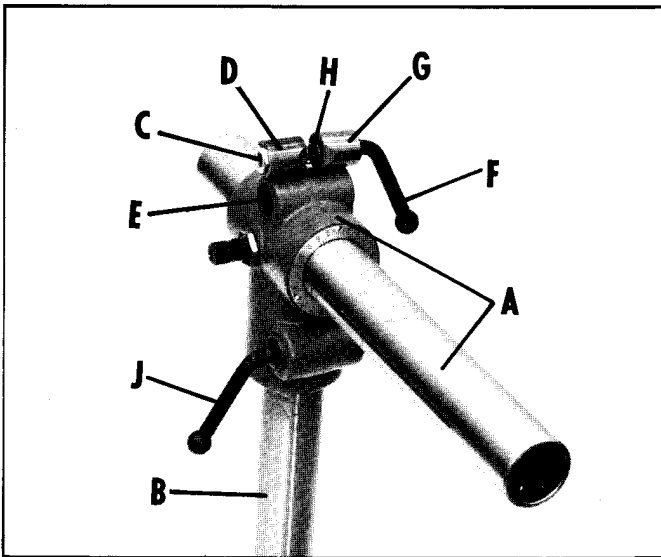

Fig. 3
3. Place "T" bracket and horizontal column (A) Fig. 3, on vertical column (B) as shown.
4. Remove nut (C) and clamp shoe (D) Fig. 3, from one column clamp. Place some grease in "T" bracket clamp bore (E) Fig. 3. Place the clamp handle (F), clamp shoe (G), and spring (H) through the "T" bracket clamp bore. Assemble the other clamp shoe (D) and nut to the clamp handle (F) on the other end of the bore. **IMPORTANT: MAKE SURE THE BEVEL END OF BOTH CLAMP SHOES (D) AND (G) FIG. 3, ARE AGAINST THE HORIZONTAL COLUMN.**
5. Assemble the vertical column clamp (J) Fig. 3, in the same manner as explained in STEP 4.